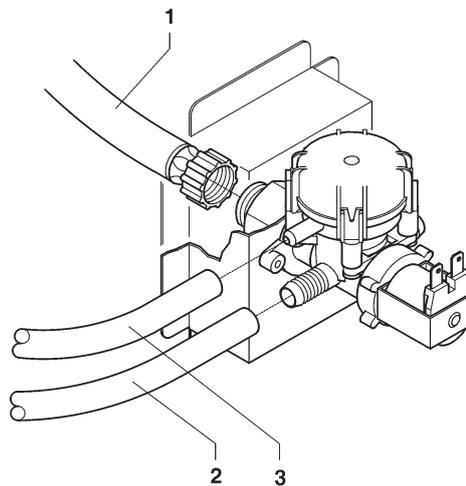

Fig. 18
Connect the water network with the 3/4" gas union of the water inlet solenoid valve by means of a tube that can support the network pressure and of a type suitable for foodstuffs (min. inner diameter 6 mm.) (see fig. 18).
The water inlet solenoid valve (see fig. 18) is complete with an antiflood device that can mechanically lock the water inlet as a result of a malfunction of the solenoid valve or the water level control gear in the boiler.
- open the cock and power on the machine (see fig. 18).